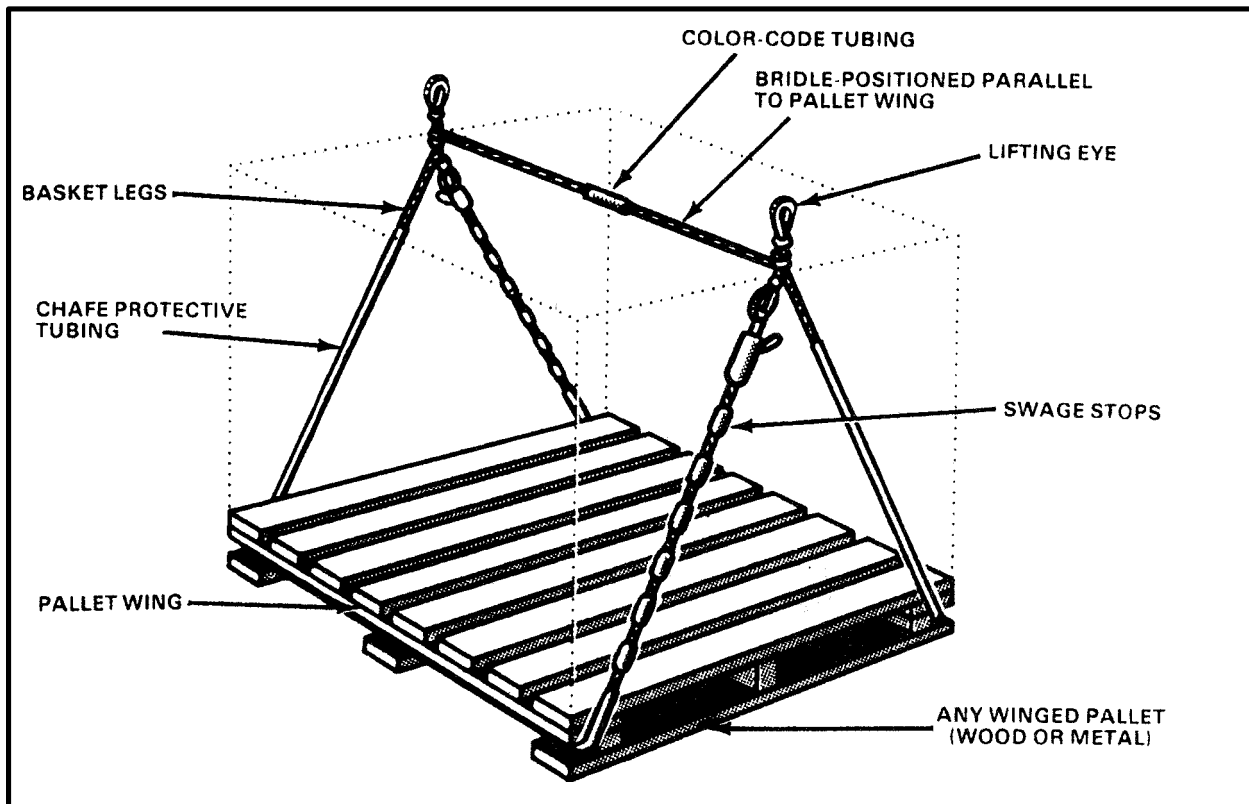
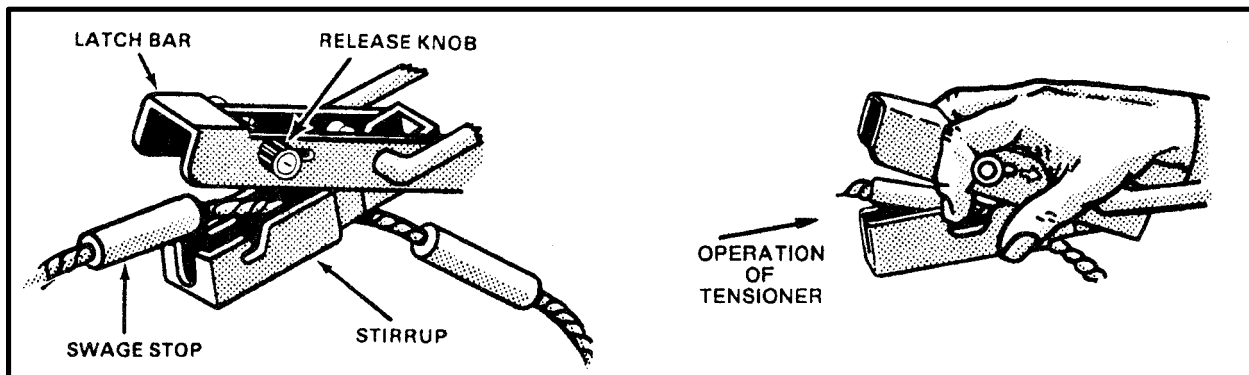
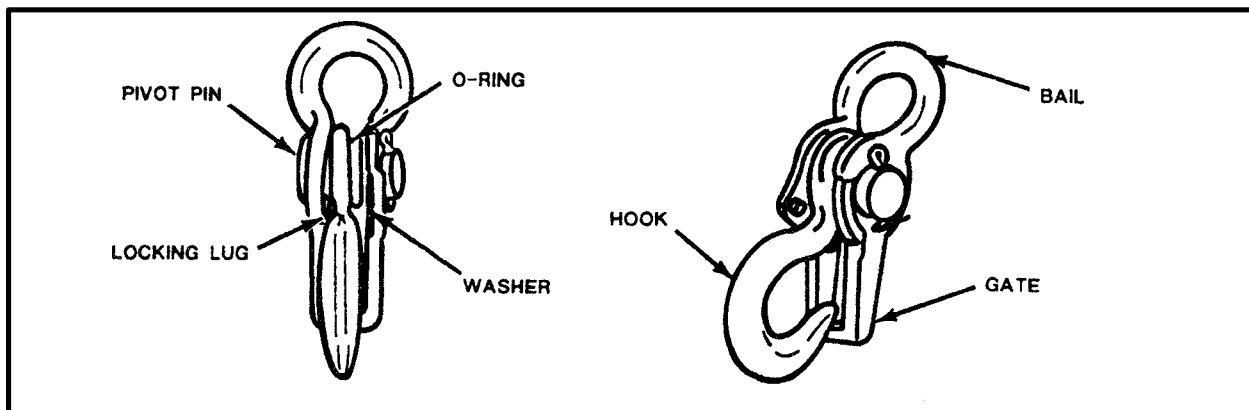

Figure 9-8. Adjustable Pallet Sling Mk85, 86, 87, and 100
Figure 9-9. Tensioner and Its Operation
Figure 9-10. Safety Hook
**a. Adjustable Pallet Slings.** Palletized ordnance may be transferred without cargo nets using the adjustable pallet sling (Figure 9-8). In order to attach the sling to the load, follow these steps:
(1) Select the proper (color-coded) sling length according to the height of the load. (Refer to Table 9-1.)
(2) Pass each loop of the sling under the overhang made by the upper boards on the sides of the pallet.
(3) Pull the ends of the sling cable containing the swage stops through the sling tensioners (Figure 9-9) until the bridle is tight across the top of the load and slack is out of the cable.
(4) Adjust the sling so that the lifting thimbles are centered and at an equal height from the pallet.
(5) Place each tensioner over the nearest swage stop, lower the latch to the stirrup, and lock the tensioner.
**b. Safety Hook Operation.** The safety hook is the only moving part of the hoisting sling assembly legs (Figure 9-10). You must be able to operate the safety